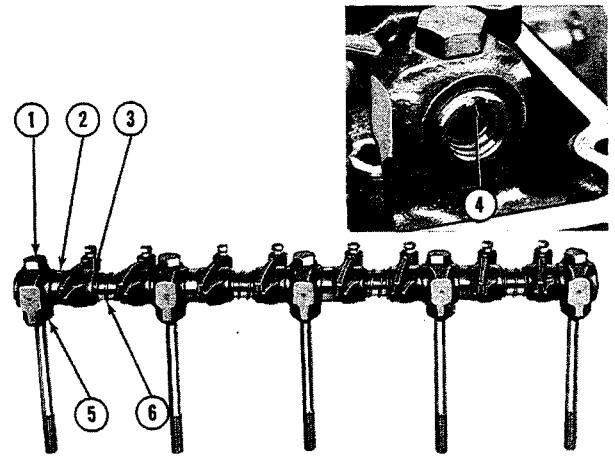
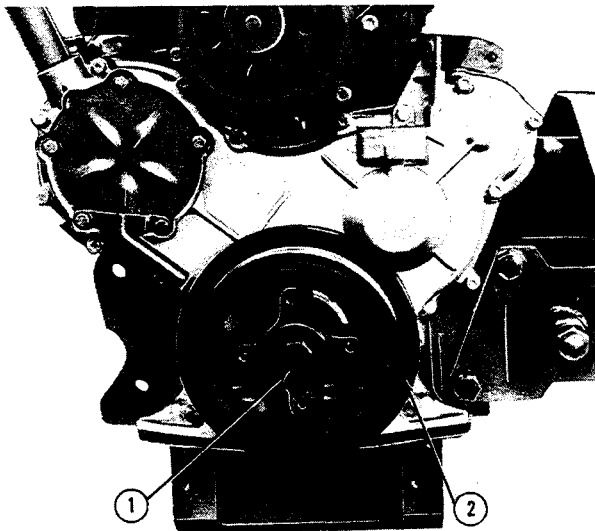

Figure 22
Figure 26
Remove only enough stock to clean up the pits and grooves. Check the edge of the valve head, if less than 1/32 in. (0.79 mm) margin, install a new valve, Figure 22.
To disassemble the rocker shaft assembly, remove the bolts that attach the rocker shaft to the cylinder head from the rocker shaft supports, Figure 22.
1. Reassemble the rocker arm and shaft assembly as shown in Figure 22.
1. Remove the fan and water pump belts. Remove the bolt and washer from the crankshaft pulley, Figure 26, using puller No. 518 and Shaft Protector No. 625-1, as shown in Figure 22. To use the puller for this purpose, 7/16" x 14 UNC bolts have to be used and the slots in the puller enlarged.